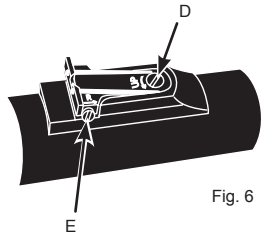

Fig. 6
The RWS Air Pistol is equipped with fiber optic sights. If the air pistol shoots low, turn the screw (D) clockwise ("UP") (See Fig. 6). If the air pistol shoots high, turn the screw (D) counterclockwise. If the air pistol shoots right turn the screw (E) counterclockwise. If the air pistol shoots left turn the screw (E) clockwise.